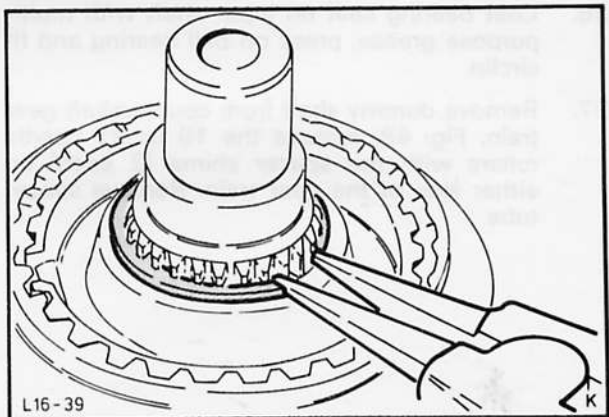

Fig. 45. Fit circlip to 3rd/4th gear synchroniser hub
33. Slide 3rd/4th gear synchroniser hub onto the mainshaft with the long side of the hub to the front, fit circlip, Fig. 45.